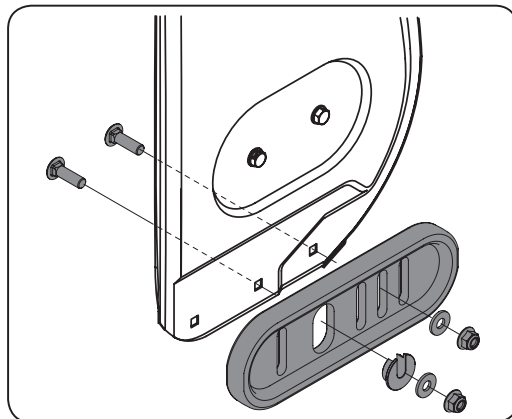

Figure 1
4. Slide the slotted metal adaptor over the bolt within the large oval opening of the skid shoe, flat side facing out. See Fig. 1.